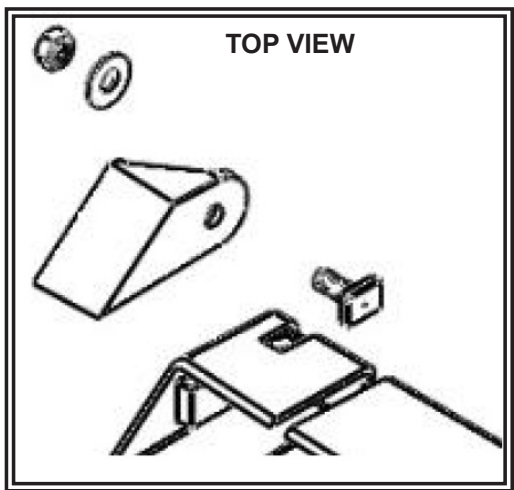

FIGURE 4
6. Install the bracket as shown on Figures 4 & 5. Gently hand tighten the nut.
2. Install the shroud bracket as shown on Figures 4 & 5. Gently hand tighten the nut.